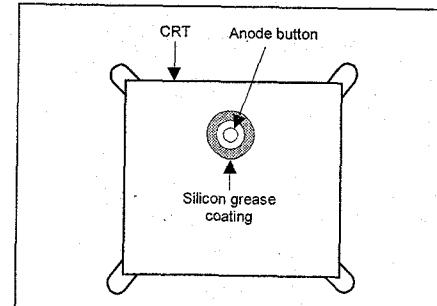

Fig. 6
- Subsequent to replacement of the CRT and HV transformer or the anode cap, etc. by dismantling them, be sure to coat silicon grease for electrical insulation as shown in Fig.6.
Wipe around the anode button with clean and dry cloth. (Fig.6)